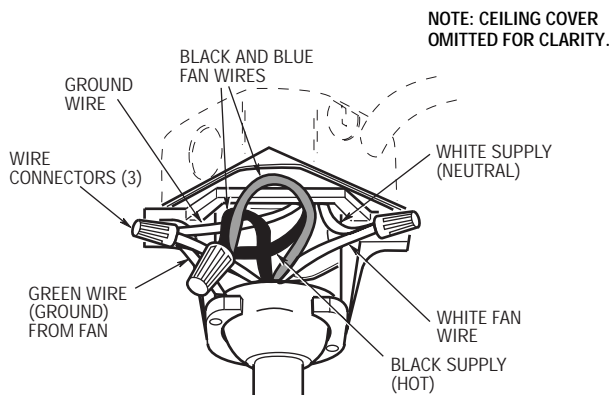

Figure 10
2. Connect the fan motor white wire to the supply white (neutral) wire using a wire connector (supplied) (Figure 10). Connect the fan motor black wire and blue wire to the supply black (hot) wire using a wire connector (supplied) (Figure 10). Your fan is now wired to be turned on and off from the fan switch. After connections have been made, turn leads upward and carefully push leads into the outlet box, with the white and green leads on one side of the outlet box and the black and blue leads on the other side of the outlet box.